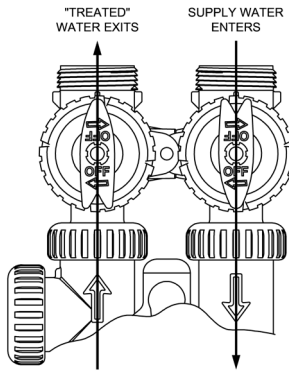

Figure 17:
- 1. Normal Operation Position:** The inlet and outlet handles point in the direction of flow indicated by the engraved arrows on the control valve. Water flows through the control valve during normal operation and this position also allows the control valve to isolate the media bed during the regeneration cycle. (See Figure 17)